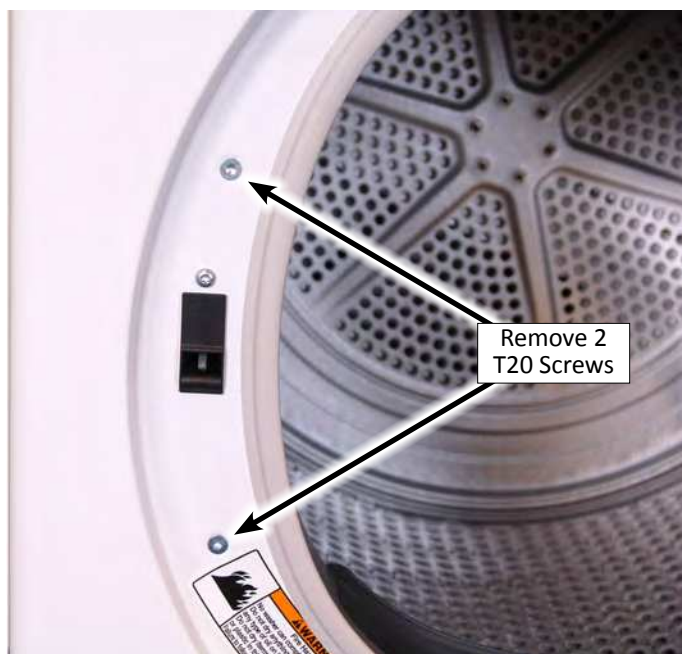

Figure 1
7. Remove the two T20 Torx screws on the opposite side of the door hinge (see Figure 1).